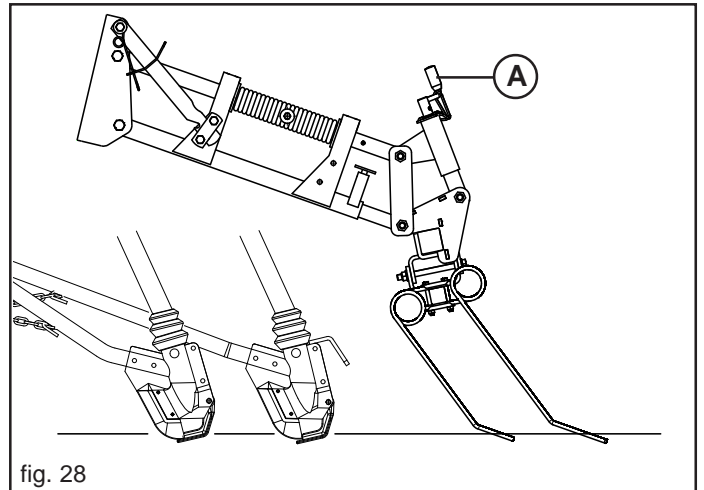

fig. 28
The normal working position of the harrow is shown in Figure 28. In this position, the wear on the teeth, between the long and the short one is even and uniform. By adjusting the regulating handle (A), it is possible to change the angle of the harrow.